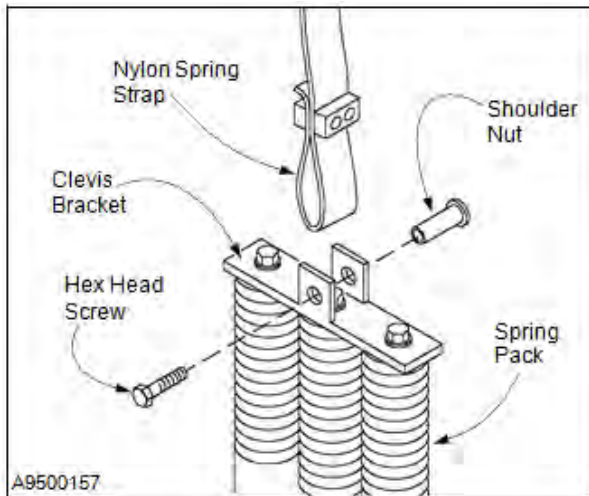

Figure 58
6. To release the strap from the spring pack, remove the hex head screw and the shoulder nut passing through the clevis bracket at the top of the spring pack. Save all hardware. (See Figure 58.)